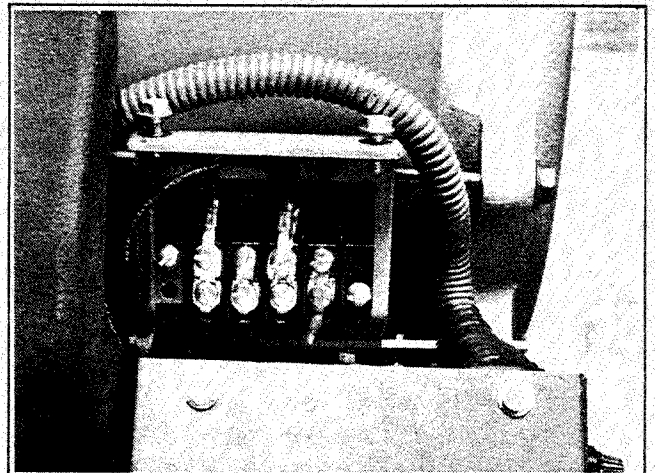

Figure 8-4. Stator Terminal Strip
6. Remove terminal strip cover and record position of stator leads 55, 66, 77, 88 and 99 on terminal strip. See Figure 8-4. Disconnect stator leads from terminal strip.